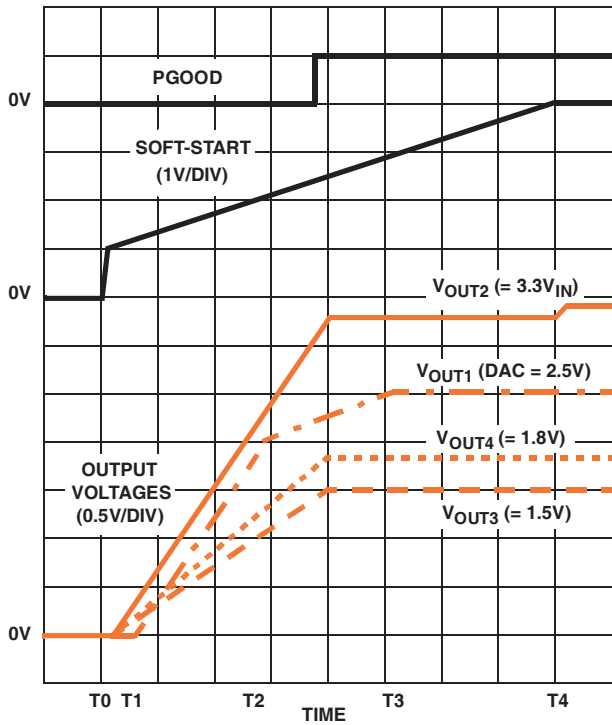
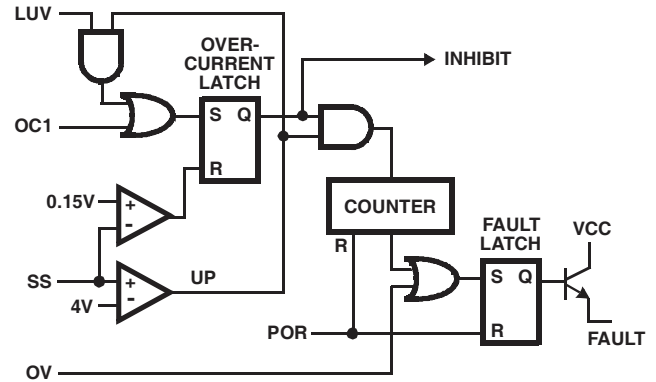

FIGURE 2. SOFT-START INTERVAL
FIGURE 3. FAULT LOGIC - SIMPLIFIED SCHEMATIC
Figure 2 shows the soft-start sequence for the typical application. At  $t_0$  the SS voltage rapidly increases to approximately 1V. At  $t_1$ , the SS pin and error amplifier output voltage reach the valley of the oscillator's triangle wave. The oscillator's triangular waveform is compared to the clamped error amplifier output voltage. As the SS pin voltage increases, the pulse width on the PHASE pin increases. The interval of increasing pulse width continues until each output reaches sufficient voltage to transfer control to the input reference clamp. If we consider the 2.5V core output ( $V_{OUT1}$ ) in Figure 2, this time occurs at  $t_2$ . During the interval between  $t_2$  and  $t_3$ , the error amplifier reference ramps to the final value and the converter regulates the output a voltage proportional to the SS pin voltage. At  $t_3$  the input clamp voltage exceeds the reference voltage and the output voltage is in regulation.
Figure 3 shows a simplified schematic of the fault logic. An overvoltage detected on VSEN1 immediately sets the fault latch. A sequence of three overcurrent fault signals also sets the fault latch. The overcurrent latch is set dependent upon the states of the overcurrent (OC), linear undervoltage (LUV) and the soft-start signals. A window comparator monitors the SS pin and indicates when  $C_{SS}$  is fully charged to 4V (UP signal). An undervoltage on either linear output (VSEN2, VSEN3, or VSEN4) is ignored until after the soft-start interval ( $t_4$  in Figure 2). This allows  $V_{OUT2}$ ,  $V_{OUT3}$ , and  $V_{OUT4}$  to increase without fault at start-up. Cycling the bias input voltage (+12VIN on the VCC pin off, then on) resets the counter and the fault latch.
Initially, the soft-start function clamps the error amplifier's output of the PWM converter. This generates PHASE pulses of increasing width that charge the output capacitor(s). After the output voltage increases to approximately 70% of the set value, the reference input of the error amplifier is clamped to a voltage proportional to the SS pin voltage. The resulting output voltages start-up as shown in Figure 2.